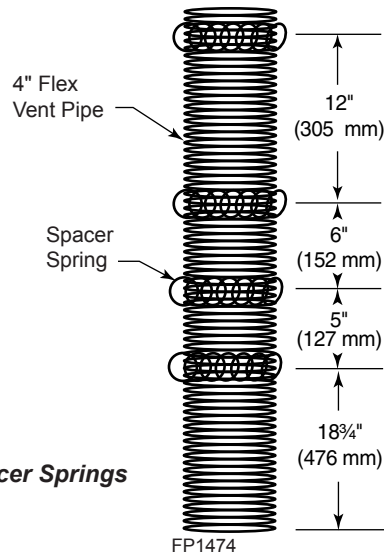

Figure 19 - Install Spacer Springs
Install the four (4) spacer springs on the 4" flex vent pipe. When installing the spacer springs around the 4" pipe, stretch the spring to approximately 15" (381 mm), wrap the spring around the pipe and interlock the ends of the spacer spring approximately 2" (51 mm). Measure 18¾" (476 mm) from the end of the pipe. Place the next spring 5" (127 mm) from the previously installed spring. Place the next spring 6" (152 mm) from the last spring. Finally place the last spring 12" (305 mm) from the last spring installed. *Figure 19*